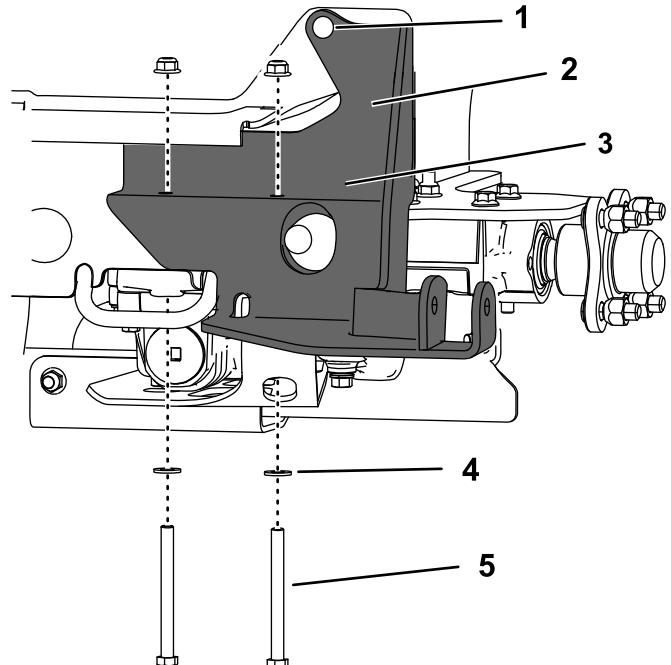

Figure 10
- 6. Install the lower mount bracket to the transmission using the 2 nuts that you removed, 2 flat washers, and 2 bolts (3/8 x 4 inches) as shown in Figure 10.